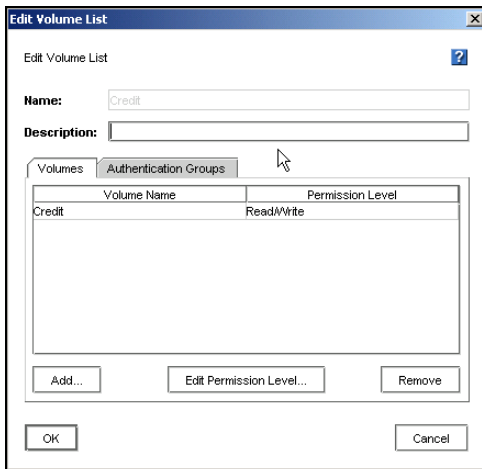

Figure 187. Editing a Volume List
The Edit Volume List window opens, shown in Figure 187.
1. In the Edit Volume List window, shown in Figure 187, select the Authentication Group tab.
1. Open the Edit Volume List window, shown in Figure 187.